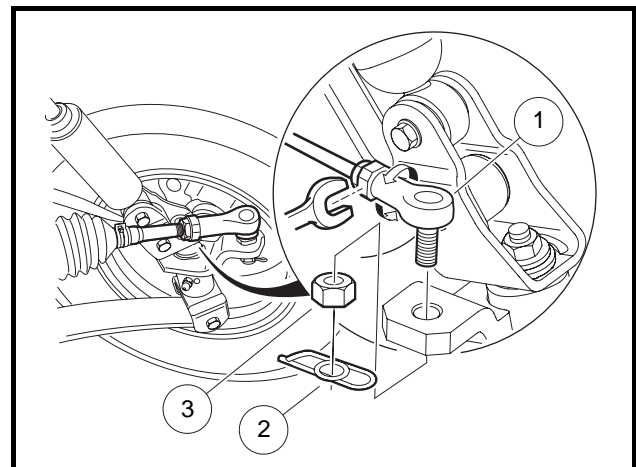

Figure 7-17 Adjust Toe-In
- 6.1. Loosen the jam nut on each tie rod end (1) (**Figure 7-17, Page 7-11**).